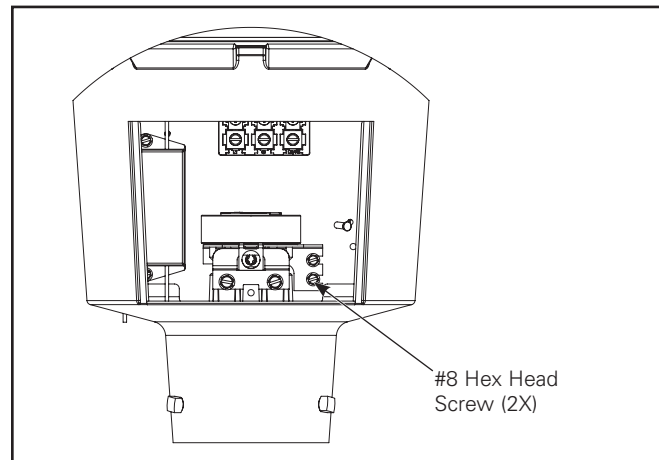

Figure 3.
4. Connect service leads to terminal block. For easy access to terminal block temporary remove photo control bracket. Bracket may be removed by loosening two #8 hex head screws and lifting bracket away from power tray (Figure 3). After connecting service leads, insert and twist to lock photocell (if used) to photo control receptacle. Reinsert photo control bracket to electrical bracket and tighten screws.